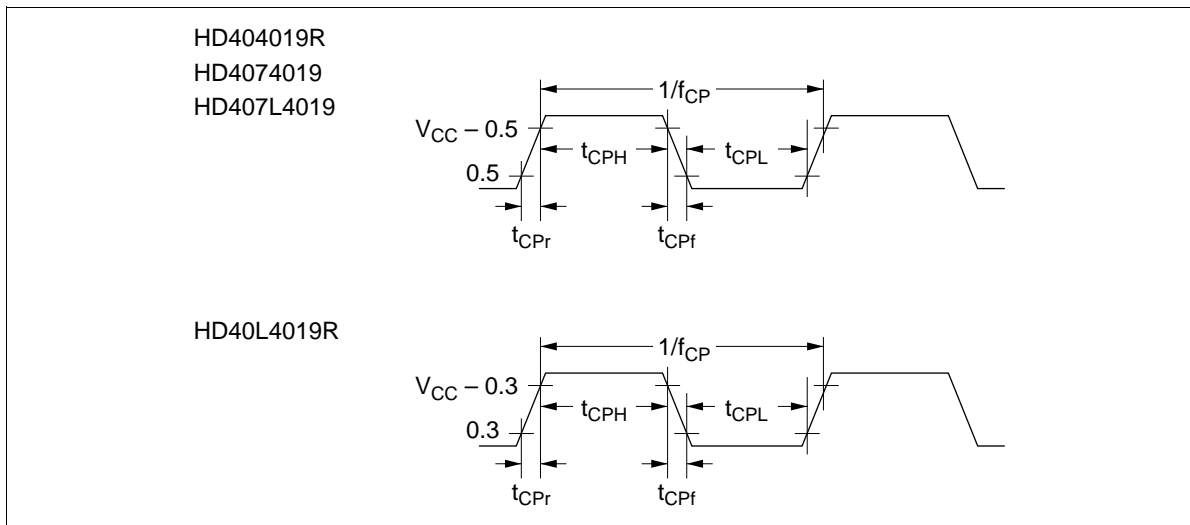

Figure 26 Oscillator Timing
Notes: 1. The oscillator stabilization time is the period from when V_{CC} reaches its minimum allowable voltage (HD404019R/HD40L4019R: 3.5 V, HD4074019: 4.5 V, HD407L4019: 3.0 V (3.5 V when $V_{CC} = 3.5\text{ V to }6.0\text{ V}$)) at power-on until when the oscillator stabilizes, or after RESET goes high by MCU reset to quit stop mode. At power-on or when recovering from stop mode, apply the RESET input for more than t_{RC} to meet the necessary time for oscillator stabilization. When using a crystal or ceramic oscillator, consult with the crystal oscillator manufacturer since the oscillator stabilization time depends on the circuit constants and stray capacitance. (See figure 26.)
- Notes: 1. See figure 26.